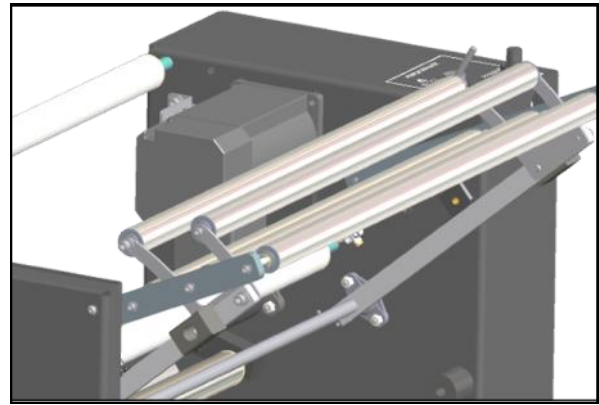

Figure 33C. Dancer Lock
6. Lock the Dancer Arm up against the magnets. **Figure 33C.**